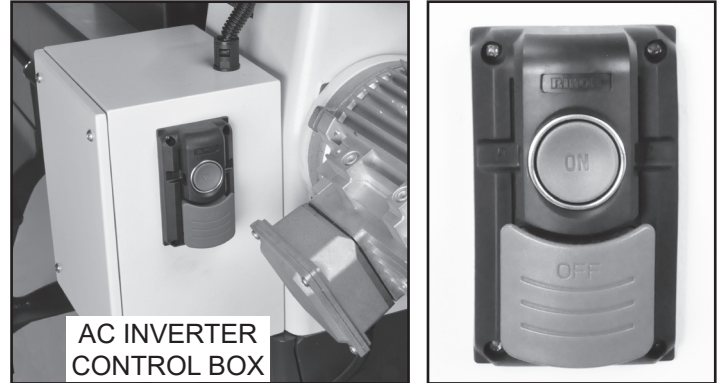

FIG. 16
The #70-3040 Lathe has a main on/off switch located behind the headstock on the side of the metal Inverter Box. FIG. 16. This switch **MUST** be operated before and after the lathe is used. It allows electrical access to the control box for using the lathe. It also totally shuts down the lathe when not in use for an extended time. The switch protects the lathe's electricals, particularly the LCD display from burning out, and prevents unwanted access by children or bystanders. The switch will also hold a lock to further secure the lathe from being activated.
**NOTE:** The AC Inverter Control Box (FIG. 16, #B23) that is located on the rear of the headstock does not require any programming. It is pre-programmed from the factory. The buttons and knob on the face of inverter should not be changed. Only use the 5 electronic controls on the front of headstock (Figure 17) to operate the lathe.